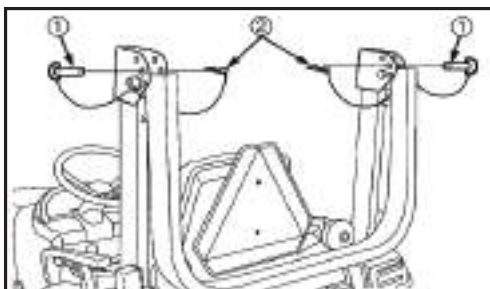

Figure 2.
1. Remove both Linch Pins and set bolts (Figure 2)